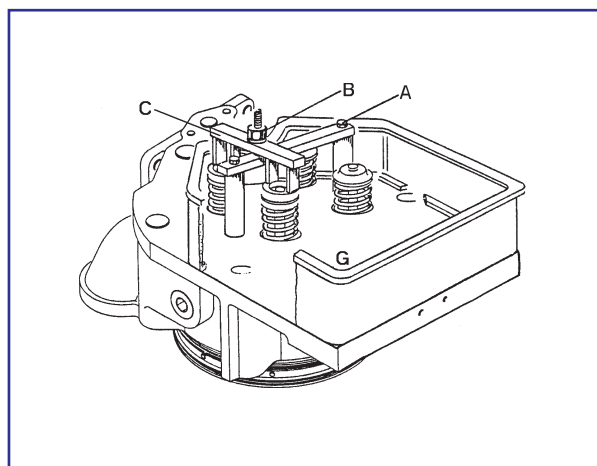

Fig 2
- 4) After having removed the valve bridge and turned the rocker arm back, the tool should be fitted by means of the screws (A), see fig 2 tightened in the threaded holes in the cylinder head.